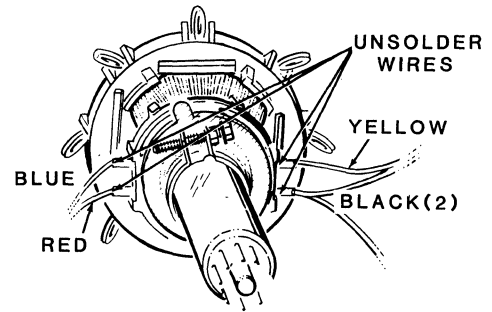
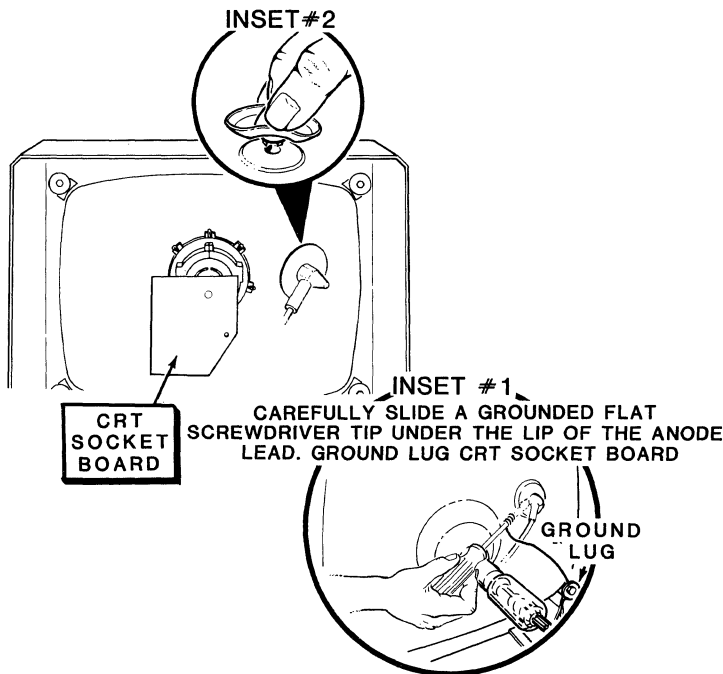
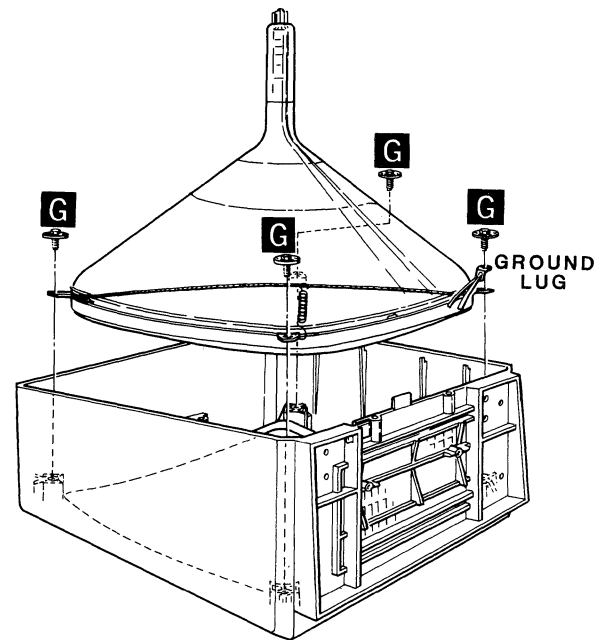

Figure 6.12
Figure 6.11
Figure 6.13
Refer to Figure 6.11, Figure 6.12, and Figure 6.13.
2. Use a screwdriver with a jumper lead attached between it and the ground lug at the lower-right corner of the CRT and discharge the high voltage anode lead at the CRT as shown in inset #1 of Figure 6.11.
3. Refer to inset #2 of Figure 6.11 and disconnect the anode lead from the CRT.
4. Unsolder the five wires from the terminals on the CRT deflection yoke as shown in Figure 6.12.
5. Refer to Figure 6.13 and remove the four 6-32 x 3/4" hex head screws and flat washers at G that secure the CRT to the cabinet.